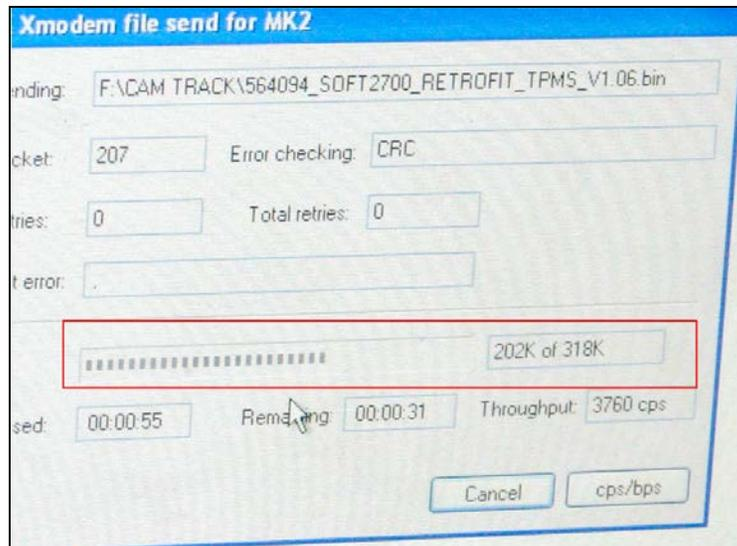

Fig.25
- To start the download procedure, click on Send within the HyperTerminal Send file box, the download screen will appear, showing the download progress (Fig.25).